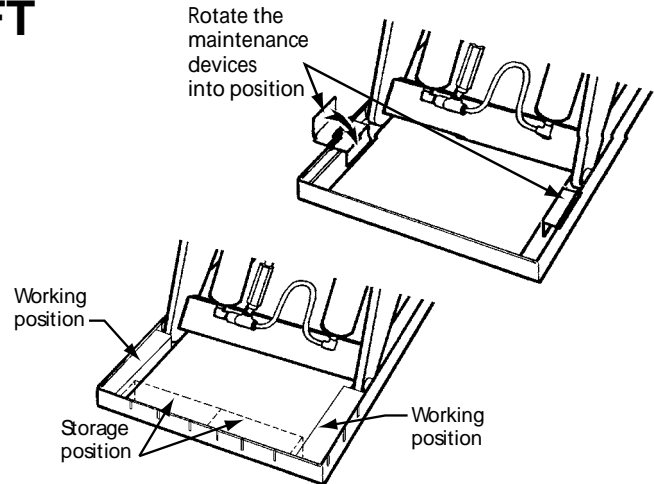

Figure 1 – Safe Servicing of Lift
3. Remove the maintenance device(s) from its/their storage location and place it/them into the engaged position as shown in Figure 1. (Note: further information may be useful here to provide additional instructions as to the location and method of storage and engaged positions).
12. **Raise the lift and insert the maintenance devices**, as shown in Figure 1.
When adjusting the flow control, always raise the lift table and insert the maintenance devices, as shown in Figure 1. Do not try to adjust the flow control while pressing the “down” button. If you try this, the lift table may drop suddenly, and you may be hurt.
devices, as shown in Figure 1.
- Every time you want to change the adjustment again, raise the table again and insert the maintenance devices as shown in Figure 1.